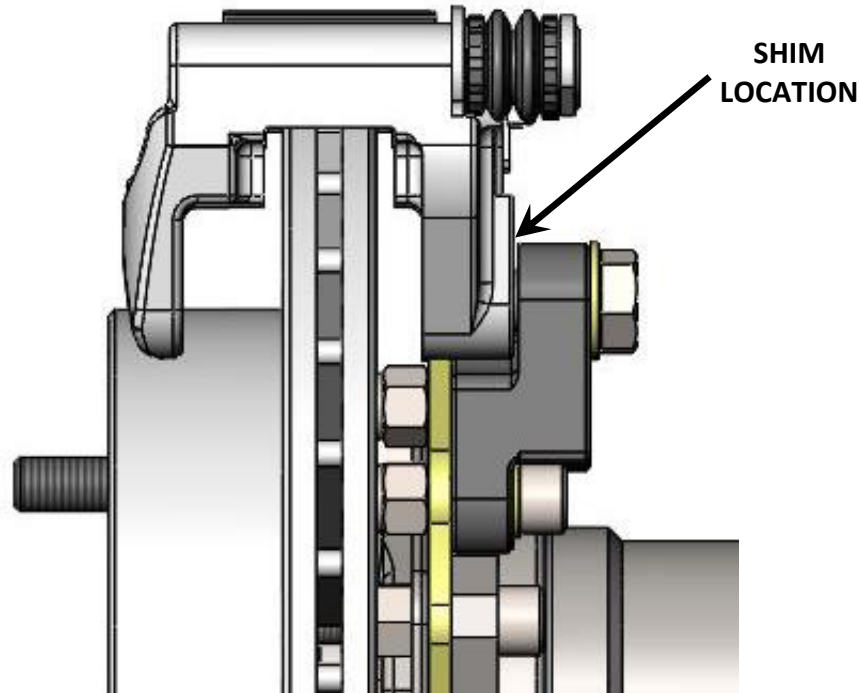

Figure 7 – Caliper Bracket Shim Location
10. Depending on original manufacturing tolerances, shimming of the Caliper Anchor Bracket may be required. To determine if shimming is necessary, measure between the Caliper Anchor Bracket and the brake rotor at both the outside and inside surface on the top and the bottom. All four measurements should be close to the same. If they are not, remove the two M12-1.75 x 35mm Hex Head Bolts and place the appropriate shims between the Aluminum Caliper Mounting Bracket and the Caliper Anchor Bracket. Figure 7 below shows the proper location of the shims. With the shims installed and the Caliper Anchor Bracket centered over the rotor, torque the M12-1.75 x 35mm Hex Head Bolts to 80 lb/ft.